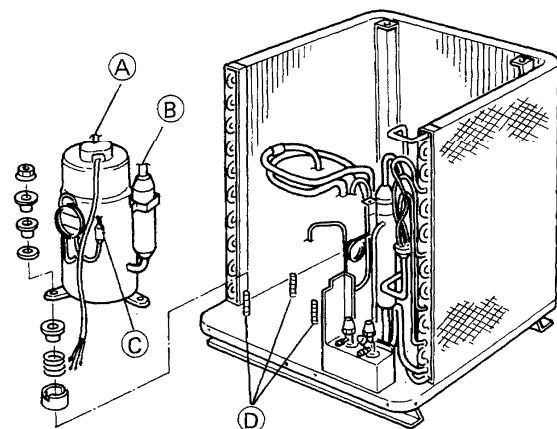

Fig. 17
- 1) Use an oxyacetylene torch to cut the three places (A), (B), and (C) where the tubing is welded to the compressor.
- 2) Remove the three nuts (D) fixing the compressor, and raise the compressor to remove it. Fig. 17